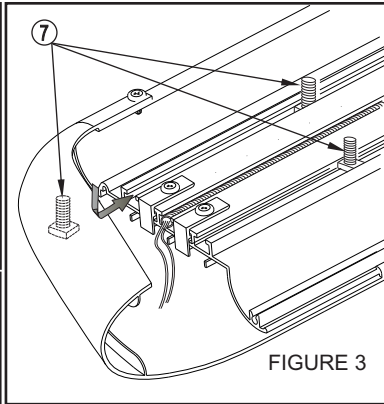
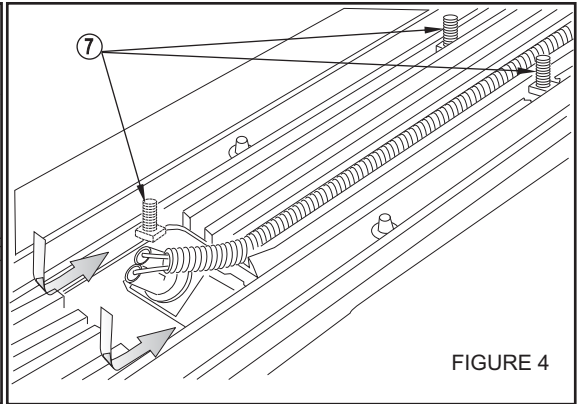

FIGURE 3
FIGURE 4
- STEP 4. If desired, cut Sure-Grip Running Board to custom length. Remove end cap, cut to length, and attach end cap. SEE FIGURE 8. Insert square head bolts as shown (3 per slot, 6 per board). SEE FIGURES 3 AND 4. NOTE: For lighted boards, run wiring harness prior to attaching board to brackets (refer to Step 6). SEE FIGURE 7. Run longer wire harness on passenger side.
HINT: Step boards: For Longevity, check rubber seals before installation. Rubber grommets around red and blue wires going into rear sockets, should be inserted and recessed about 1/4". NOTE: Remove bulbs and apply white grease into sockets and replace bulbs. Apply RTV Silicone where lights go into socket. Install lights and run wire loom as shown. SEE FIGURE 4. For Sure-Grip Running Boards, run wire loom down center as shown. SEE FIGURE 3.